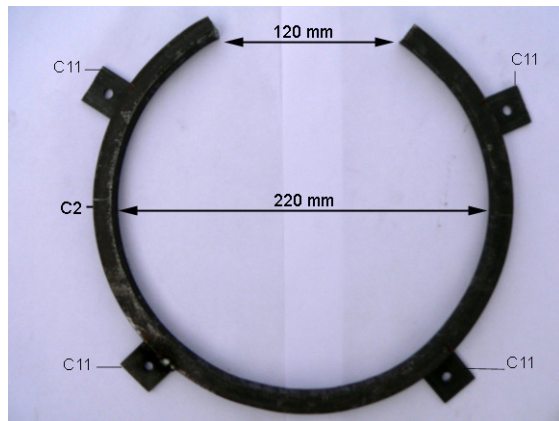

Fig. 60: Cooking Circle
**Step 7** Stabilize C2 with C4. See Fig.60.